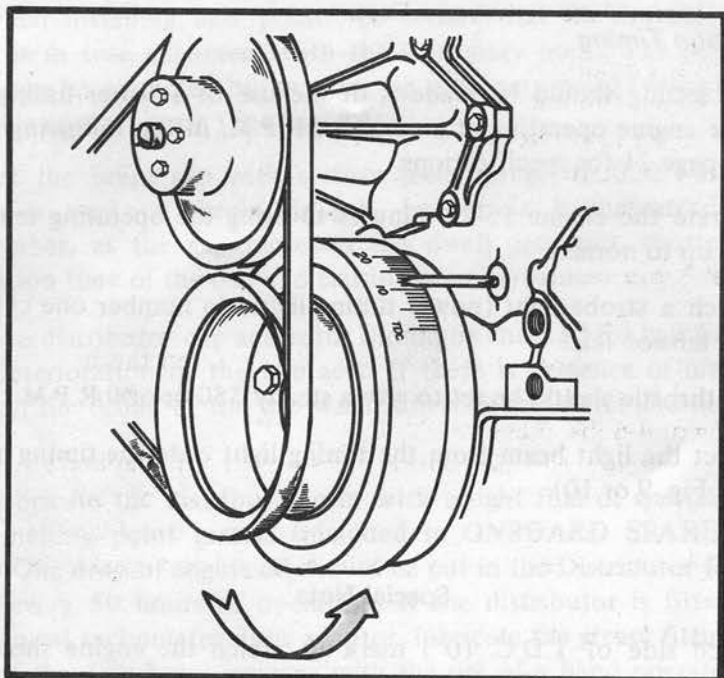

Fig. 9. Right Hand Rotation
4. Direct the light beam from the timing light onto the timing marks. (See Fig. 9 or 10)
Which side of T.D.C. ( $0^{\circ}$ ) mark to which the engine should be timed varies according to engine rotation. (See Fig. 9 or 10)